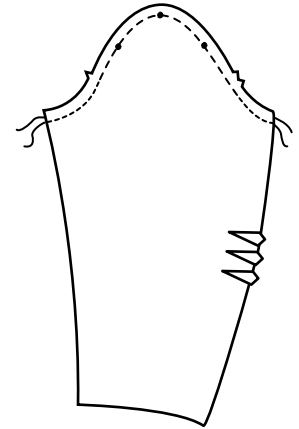

Figure 7
1. Using a regulation machine stitch, which is generally 12 to 14 stitches per inch, sew on the seam line from seam edge of sleeve to the first notch. Without removing the sleeve or interrupting the stitching line, change the sewing machine stitch regulator to an ease stitch setting. Continue stitching around the cap of the sleeve to the other notch, then change the stitch regulator back to regulation machine stitching and continue stitching to the sleeve seam edge (Figure 7). As in Method I, the weight of the fabric will determine the number of stitches per inch to use for both regulation stitching and ease stitching. It is important to sew directly on the ⅝ inch seam line since this also will serve as an important guide for stitching when the sleeve is stitched into the armhole of the garment.